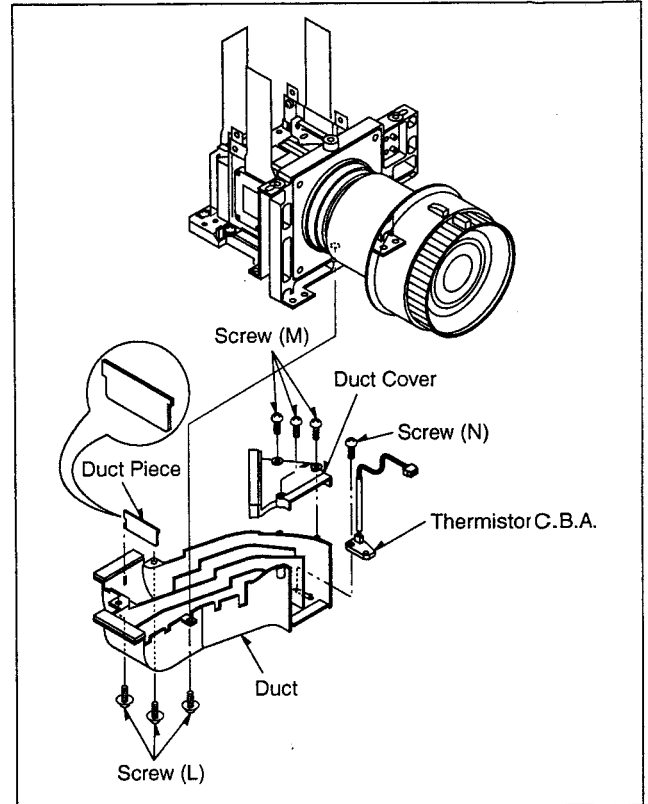

Fig. O12
1. Remove 3 screws (L) to remove the Duct along with the Thermistor C.B.A. as shown in Fig. O12.
2. Remove 3 screws (M) to remove the Duct Cover.
3. Then remove a screw (N) to remove the thermistor C.B.A.